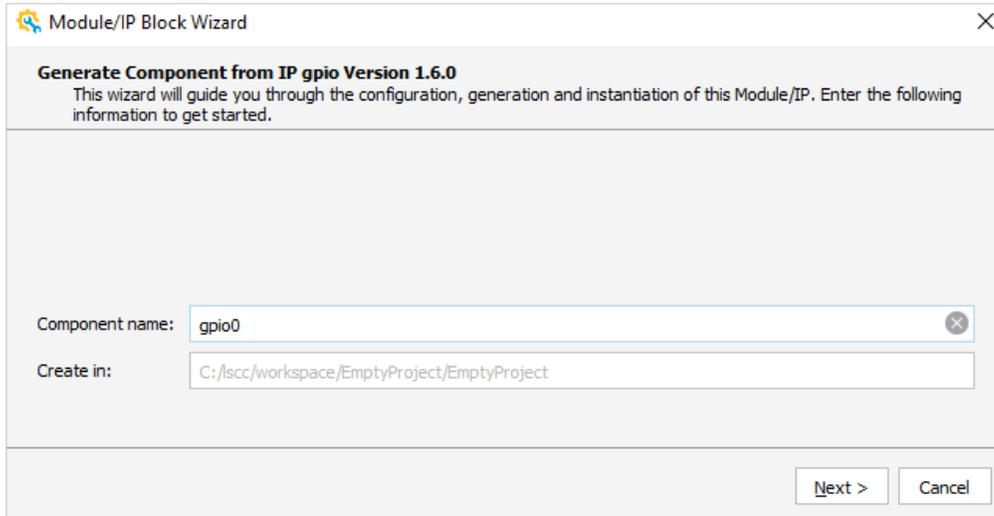

Figure 2.19. Module/IP Block Wizard – Generate Component from Module gpio Version 1.6.0
- From the **IP on Local** tab, select a desired IP, such as GPIO. Double-click the IP module or drag and drop the IP module to the **Schematic** view. A Module/IP Block wizard pops up (Figure 2.19).